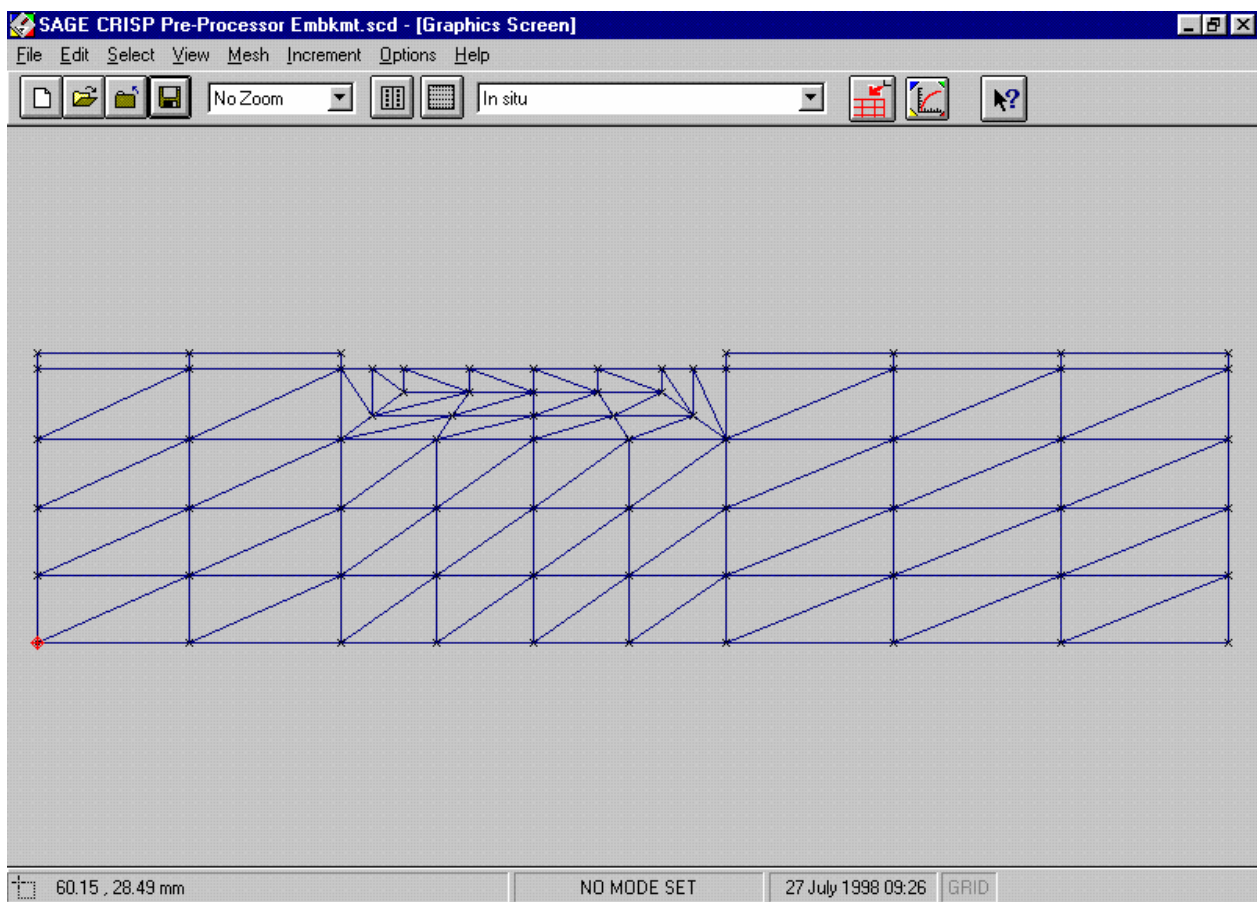

Figure 6-14:Automatically Generated Finite Element Mesh
Step 2 Provided you have completed the above stages correctly, the finite element mesh will be displayed as shown in Figure 6-14 and the main menus will change, to allow you access to the additional options available in Finite Element Mesh mode.